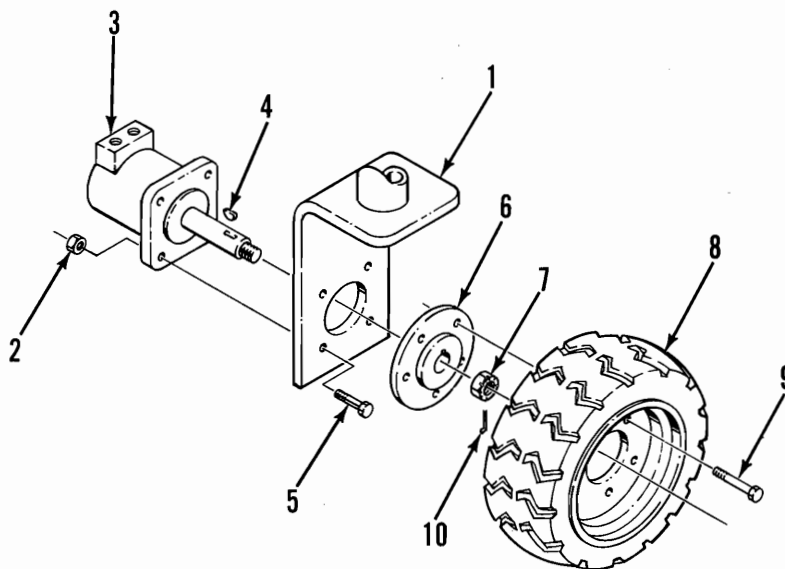

Figure 5-9. Drive Motor Removal
a. Removal (Figure 5-9).
- (1) Park the machine on firm level ground then block the wheels to prevent the machine from rolling.
- (2) Loosen the wheel cap screws (9) on the front corner to be raised.
- (3) Use a 1.5 ton capacity jack to raise the desired front corner.
(1) Refer to Figure 5-9 and position the drive motor (3) on the mounting plate (1) and secure with capscrews (5) and locknuts (2).
(2) Remove the plugs from the hose assemblies and connect to the drive motor (3).
(3) Install the shaft key (4), hub (6) and locknut (7). Torque the locknut to 350 to 400 ft. lb. Install the cotter pin (10).
(4) Install the wheel (8) with capscrews (9) onto the hub (6). Torque to 40 ft. lb.
(5) Lower the jack and remove. Operate the drive system and check for leaks.